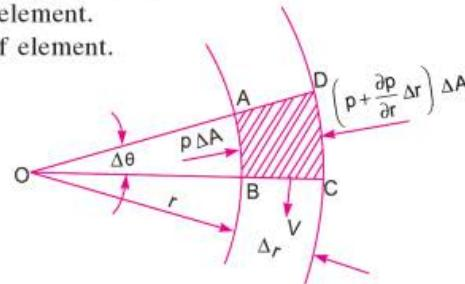

Fig. 5.13
5.10.3 Equation of Motion for Vortex Flow. Consider a fluid element $ABCD$ (shown shaded) in Fig. 5.13 rotating at a uniform velocity in a horizontal plane about an axis perpendicular to the plane of paper and passing through O .